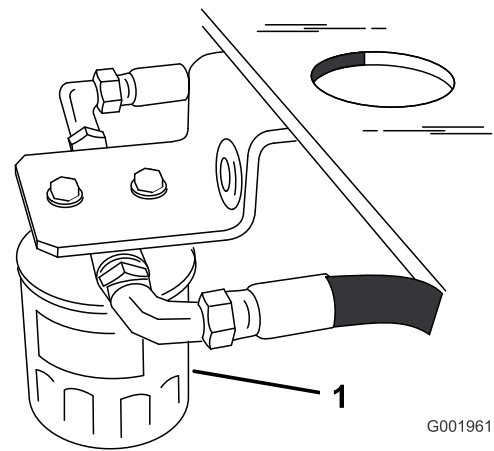

Figure 60
3. Locate the filter under the fuel tank and place drain pan under filter (Figure 60).